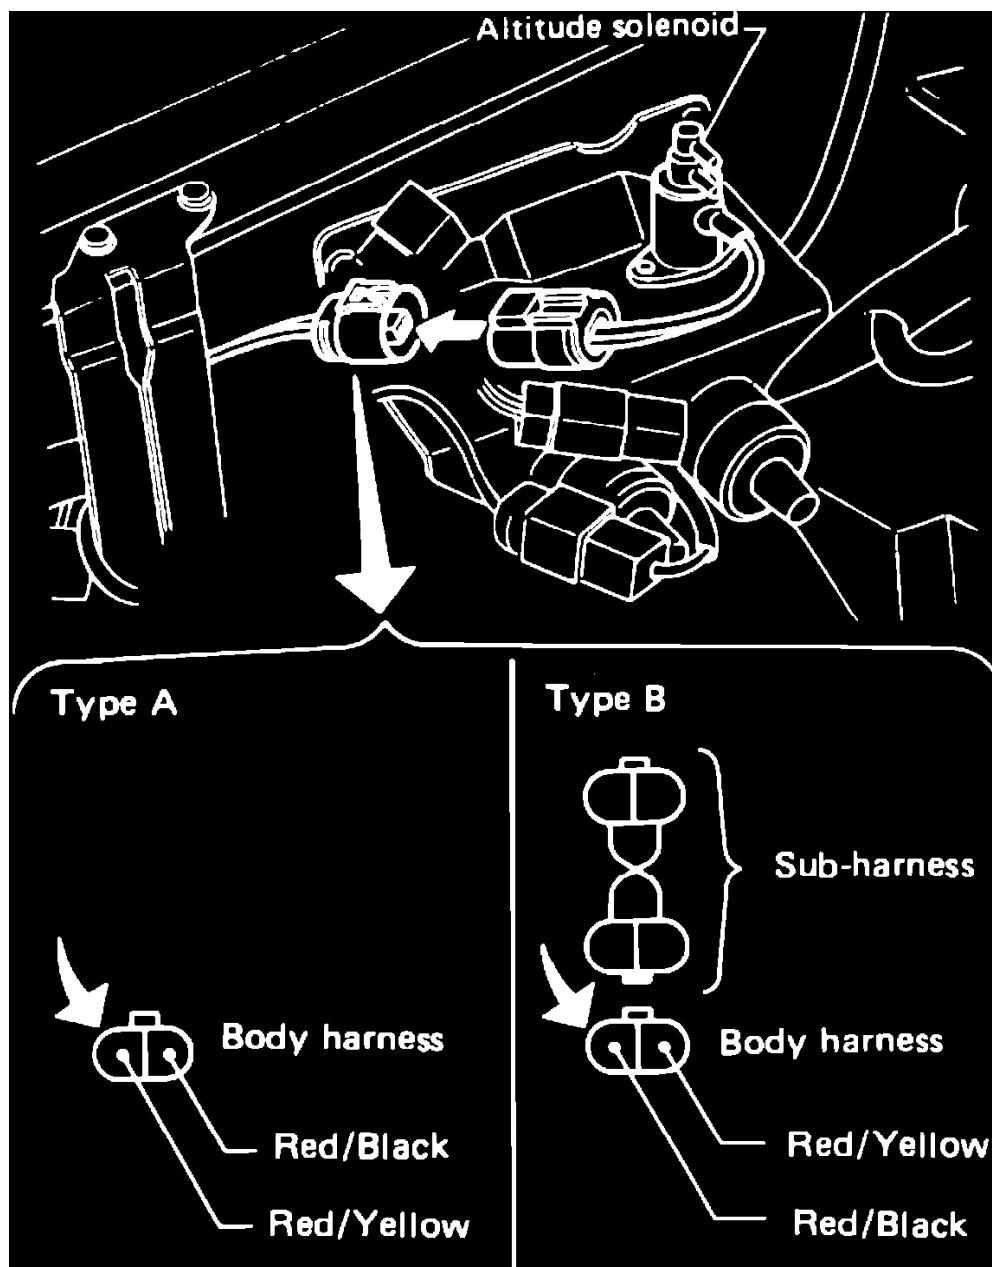

Fig. 40 Identifying altitude solenoid valve connector.
2. Identify altitude solenoid valve electrical connector, **Fig. 40**, then install altitude solenoid valve and secure connector. **Use sub-harness on type B connector only.**